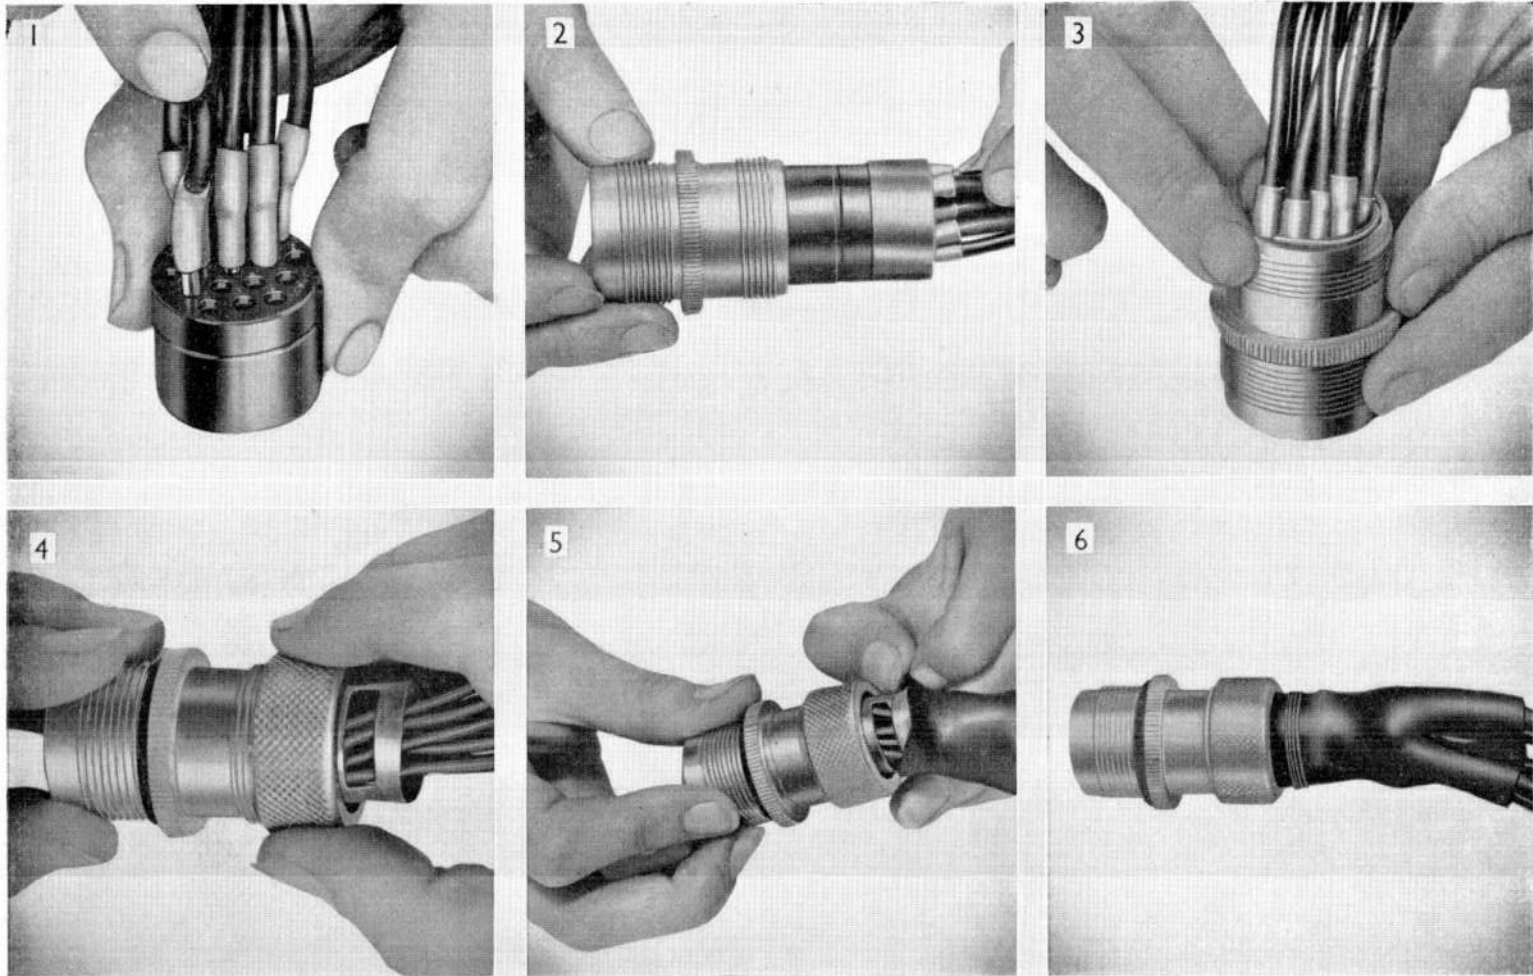

Fig. 5. Socket assembling sequence
26. The assembling of a climatic-proof socket, using bunched cables and a cut ferrule, is described in full as a typical example of the procedure involving crimping of socket inserts (fig. 5).
- (1) Dismantle the socket by removing the circlip located at one end of the socket shell, and withdrawing the insulating sleeve, comb and socket mouldings complete with socket inserts, and the insulating washer.
- (2) Bare the end of each cable just sufficiently for the wire to lie along the narrow section of the socket insert.
- (3) Fit the split sleeve, coupling nut, cut ferrule, ferrule gasket, circlip, and insulating sleeve, over the cable assembly in the order given.
- (4) Ensure that a thimble is located over each socket insert, then locate the first cable end in its relevant insert.
- (5) Locate the thimble centrally in the crimping tool, and firmly squeeze the handles. Ensure that a firm and satisfactory crimp has been made, and pass a marker sleeve over the joint.
- (6) Repeat sub-para. (5) for the remaining cables and inserts.
- (7) Line up the comb and socket mouldings, and push each insert into the correct hole in the comb moulding until it locks in position (1, fig. 5). Re-assemble the insulating washer, comb and socket moulding and insulating sleeve in the socket shell (2), and fit the circlip (3).
- (8) Slide up and locate the ferrule gasket and washer on the socket end, and screw the coupling nut up tight (4).
- (9) Pull the end of the split sleeve over the cut ferrule (5) and bind it securely in position with waxed twine (6).